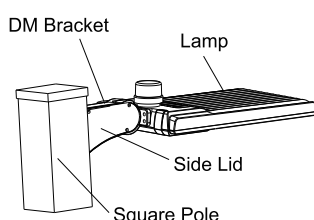

Figure 19
Step 2: Put the connected wire into the junction box, then cover the junction box. (Figure 19)